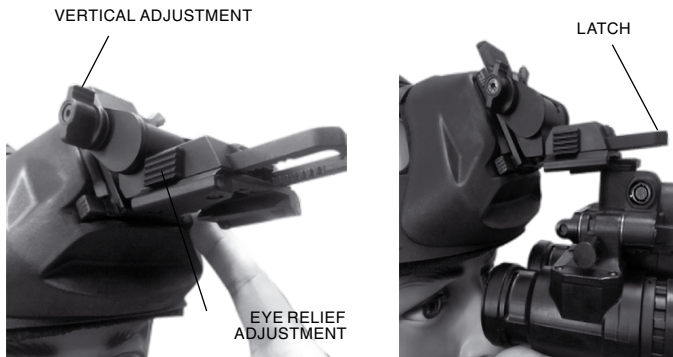

FIGURE 2.21. HEAD MOUNT/HELMET MOUNT OPERATION
(3) Align the head mount/helmet mount latch to the head mount socket (Figure 2.21.). Insert the Helmet Fixture into the Socket of the mount.
(4) Set your eye relief by depressing the eye relief adjustment (Figure 2.21.) and move the goggles back toward your eye until the eyecup comfortably seals around the eye.
(5) Turn the goggles ON.
(6) Readjust the vertical adjustment (Figure 2.21.) of the head mount until the goggles are properly aligned with your eye.